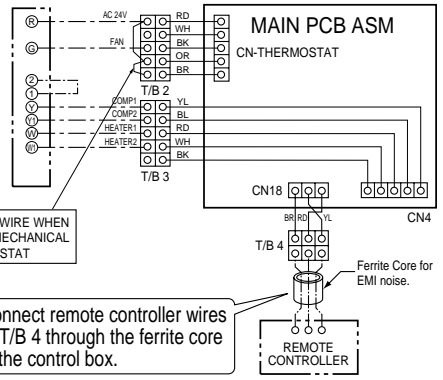

Figure 5C
**■ Cooling only - 2 Comp, 2 Heater(Figure 5C)